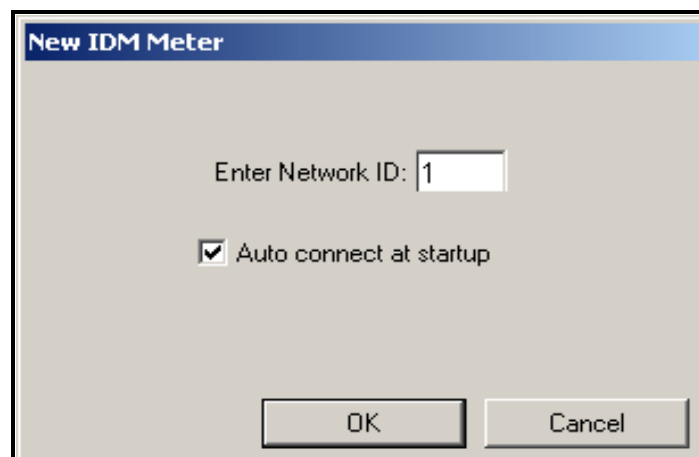

Figure 5: New IDM Meter Screen
4. The “*New IDM Meter*” screen (shown in Figure 5 below) opens. Enter the Network ID number for the meter, and click [OK].